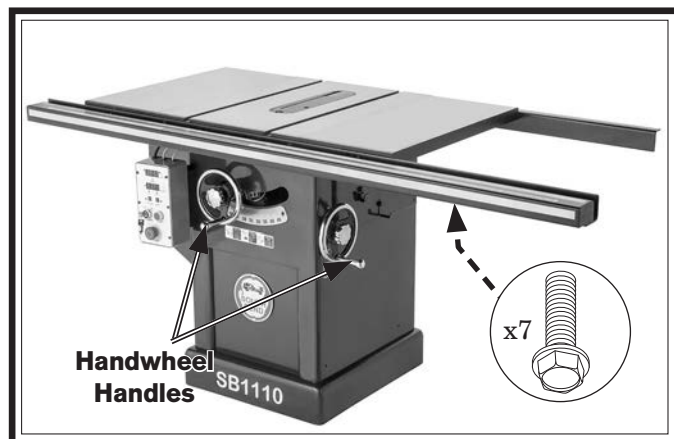

Figure 22. SB1110 fence tube mounted to front rail.
6. Place fence tube over front rail and secure with (7) M8-1.25 x 12 flange bolts, as shown in **Figure 22**, then install handwheel handles.